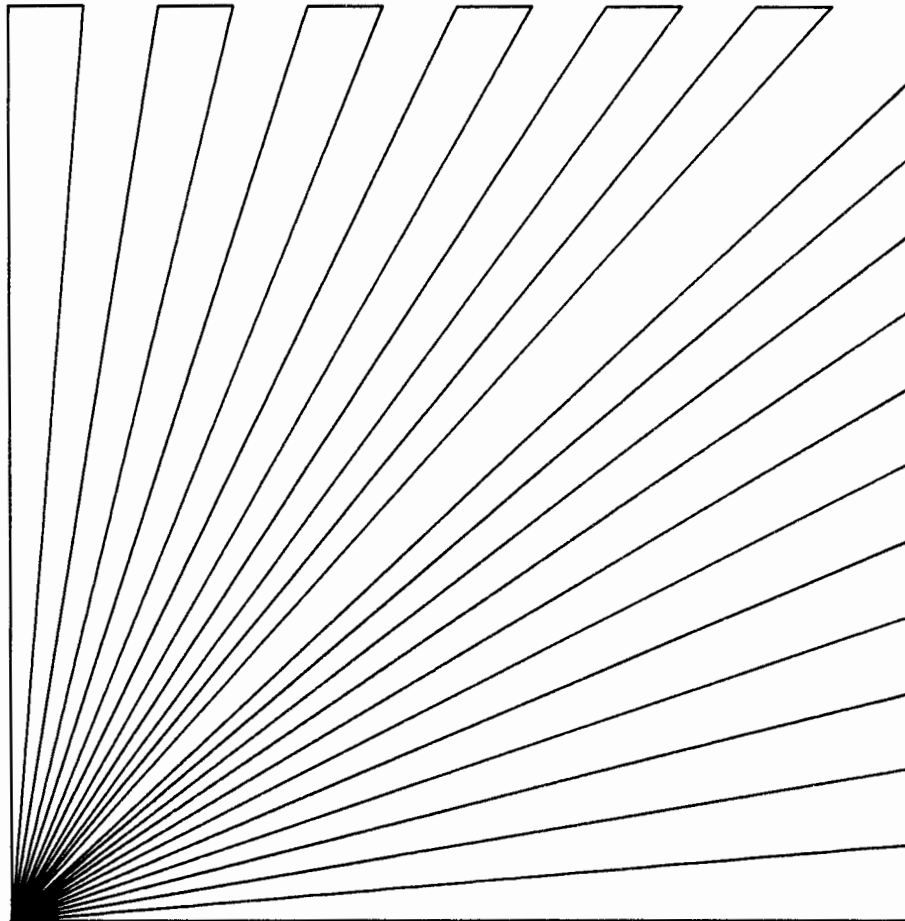

Figure 2-2. Confidence Test Plot
- c. A fan shaped test plot is drawn. See Figure 2-2.